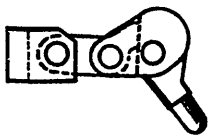
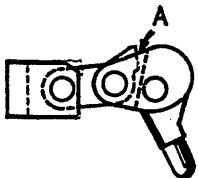
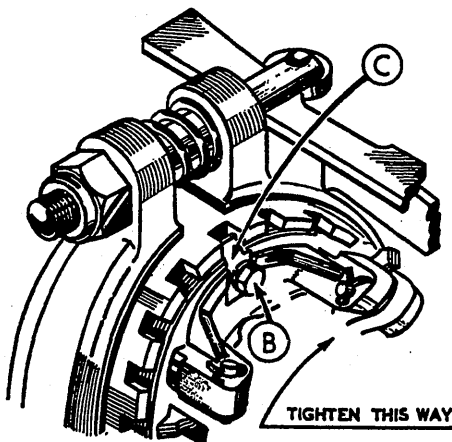

FIG 1
FIG 2
FIG 3
- (g) Check for worn or unevenly adjusted Toggles and Toggle Links. These may have been replaced at some time and were not correctly adjusted to produce even pressure on the clutch plates through the plungers. Examine the links; they should all come into correct closed position at 'A' as shown in Sketch Fig. 1. Should one of the links close up and two remain open as in Fig. 2, then the link that shows correct should be filed slightly at 'A' until all bear equally at this point when closed. If two links show correct and the third open, then both closed ones must be filed slightly until this space is closed by all three toggles. As this is most important when fitting new toggles it is best to order three complete sets of toggle assemblies comprising Parts Numbers M24, M25, M28, M23, M26 and 27. When adjustment is fairly tight, the lever should throw in with a snap and require a sharp pull to disengage the toggles.
Ahead clutch must not be adjusted so tight that toggles will not close up with links at 'A' Fig. 2. Fig. 1 shows correct position with central pin just past dead center and therefore locked in ahead without constant pressure on the control lever and operating collar.
Turn drum so that tab 'C' is at top position. See Fig. 3. Pull control lever aft so as to lock drum. Slack off screw 'B', lift tab 'C' out of slot. Tighten ahead clutch by turning clockwise aft portion that carries toggles. Correct adjustment is important. If too tight gear will not remain in ahead. See Fig. 2. If too slack the clutch will slip under load. A notch or two either way will make all the difference. Note the tab is offset and can be reversed for closer adjustment.